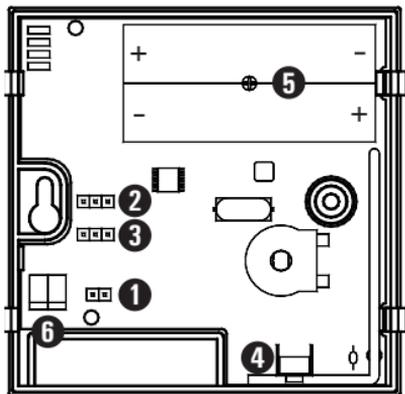

Fig. 5 - Abb. 5
By adjusting the **JP3** connector, shown by ③ in Fig. 5, the thermostat can be set in Heating or Cooling mode:
Jumper inserted to the left (**F** of Fig. 5)
Jumper inserted to the right (**G** of Fig. 5)
To make sure that the batteries last for a long time, the thermostat waits for a length of time between one transmission and another that can be chosen as 3 or 10 minutes by adjusting on an internal jumper **JP2**, shown by **2** in Fig. 5.
Jumper inserted to the left (**C** of Fig. 5)